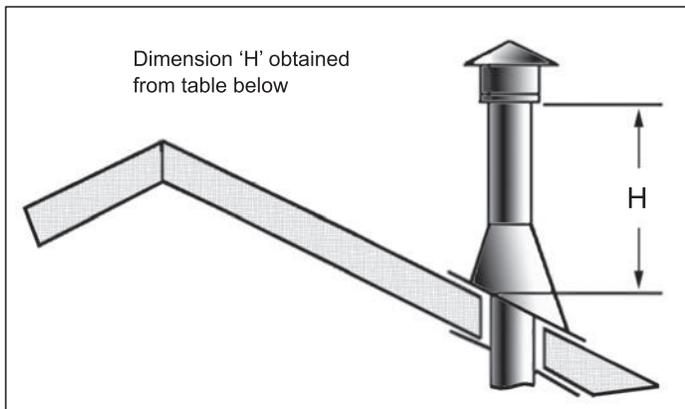

Fig. 28 Height of Vertical Termination; Reference Table 3
8. Continue to add vent pipe sections until the height of the vent cap meets the minimum code requirements. Refer to **Fig. 28** and **Table 3**. Note that for steep roof pitches, the vent height must be increased. High wind conditions, nearby trees, adjoining roof lines, steep pitched roofs, and other similar factors can result in poor draft or down drafting. In these cases, increasing the vent height may solve the problem.